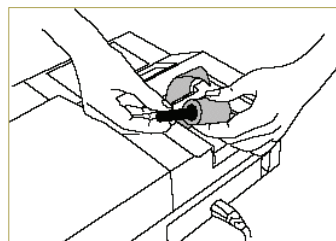

Figure B-10: Feed paper through and insert roll holder
6. Feed the paper until the tip appears at the paper exit (Figure B-10).
8. Insert a roll holder in the paper roll. Then, drop the roll holder into the slot (Figure B-10).